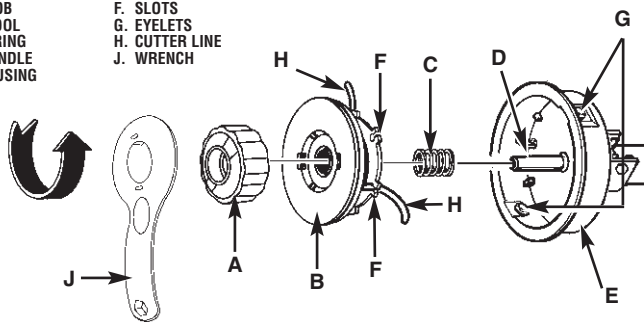
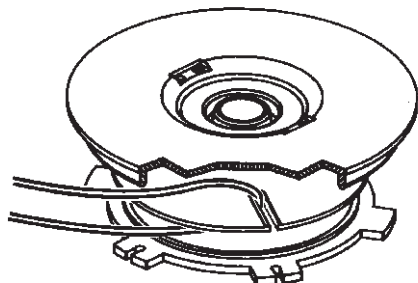

Fig. 8
Fig. 9
1. Turn the knob (A) COUNTERCLOCKWISE and remove it (Figure 8).
2. Remove the spool (B) and spring (C) from spindle (D).
3. Remove any remaining cutter line (H).
4. Double a 14' (4.3m) length of .095 or .080" (.24 or .20cm) cutter line. Place the looped center in one of the slots (F) of the spool divider (Figure 9).
5. Wind as shown in illustration (Figure 9), keeping tension, with each half separated by the spool divider. Wind to within 6" (15cm) of the ends.